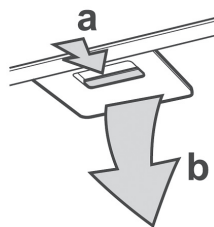

Fig. 1
1. Remove the metal filters (Fig. 1). If carbon filters are mounted, remove them.
1. Remove the metal filters (Fig. 1), and remove the carbon filters from them.